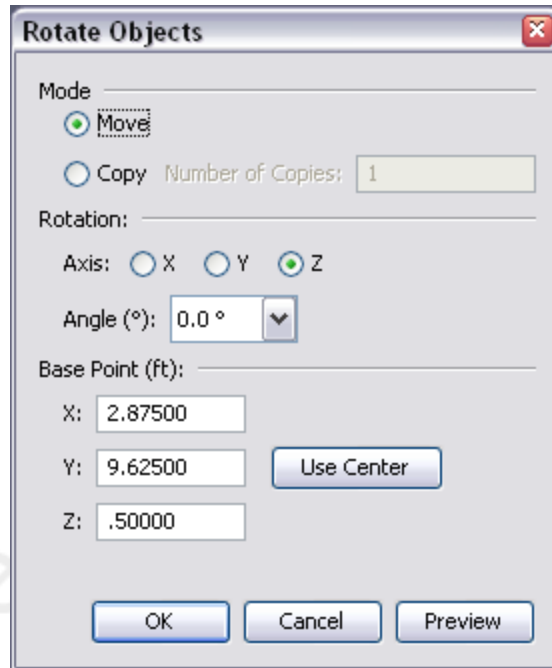

Figure 116. The rotate dialog being used to rotate an object
3. This will show the Rotate dialog as in Figure 116.